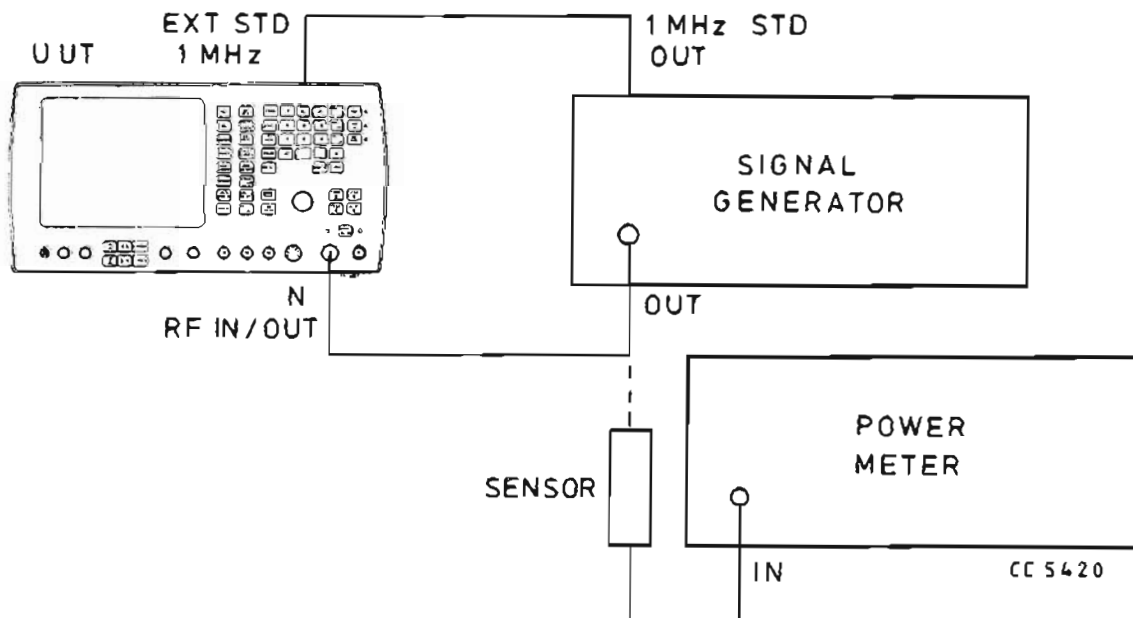

Fig. 6 Test equipment connections for modulation meter input sensitivity performance checks.
- (2) Set the signal generator to carrier frequency 400 MHz, modulation 10 kHz f.m., modulation rate 1 kHz.
- (3) Connect the power meter to the signal generator output (see Fig. 6) and adjust the r.f. level to give 5 mW indication on the power meter.